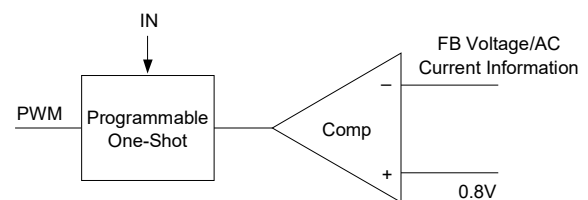

Figure 2. Simplified Control Schematic of AOZ2152EQI-31
The control algorithm of AOZ2152EQI-31 is constant-on-time PWM control with input feed-forward. The simplified control schematic is shown in Figure 2. The high-side switch on-time is determined solely by a one-shot whose pulse width is inversely proportional to input voltage (IN). The one-shot is triggered when the internal 0.8V is higher than the combined information of FB voltage and the AC current information of inductor, which is processed and obtained through the sensed low-side MOSFET current once it turns-on. The added AC current information can help the stability of constant-on time control even with pure ceramic output capacitors, which have very low ESR. The AC current information has no DC offset, which is fundamentally different from other V^2 constant-on time control schemes.